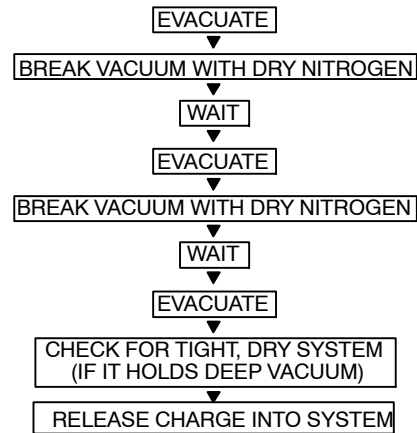

Fig. 18 – Triple Evacuation Method
Refer to Fig. 18 and proceed as follows:
- 5 Repeat this procedure as indicated in Fig. 18. The system will be freed of any contaminants and water vapor.